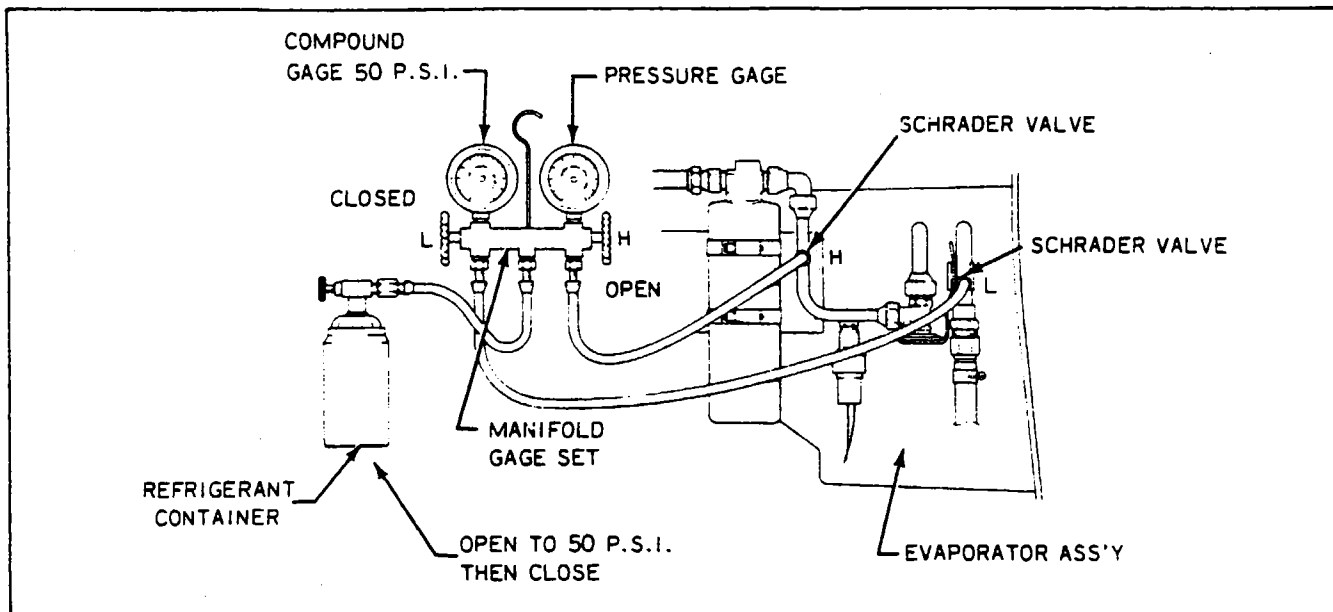

Figure 14-27. Leak Test Hookup
- a. Connect the manifold gauge set into the system and determine if there is any refrigerant in the system. A minimum of 50 psi refrigerant pressure in the system is needed for leak detection. (Refer to Figure 14-27.)